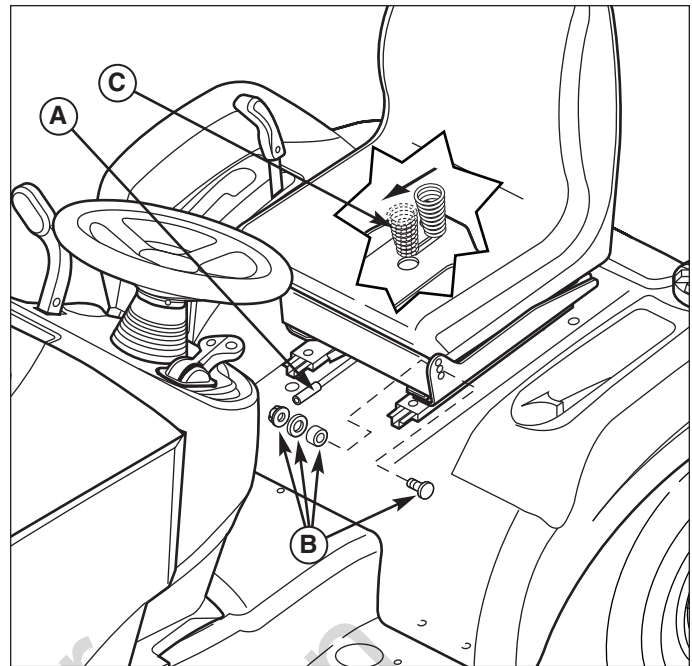

Figure 10. Seat Adjustment
The pitch of the seat can be adjusted to one of three positions. To adjust, remove the carriage bolts, spacers, washers, and nuts (B, Figure 10) from the hinge and reinstall them in the desired holes.
The seat can also be adjusted forward and back. Move the lever (A, Figure 10), position the seat as desired, and release the lever to lock the seat into position.
The seat springs (C, Figure 10) can be adjusted to provide a softer or firmer ride. Tilt the seat forward and slide the spring assembly (C) forward for a softer ride, and back for a firmer ride.